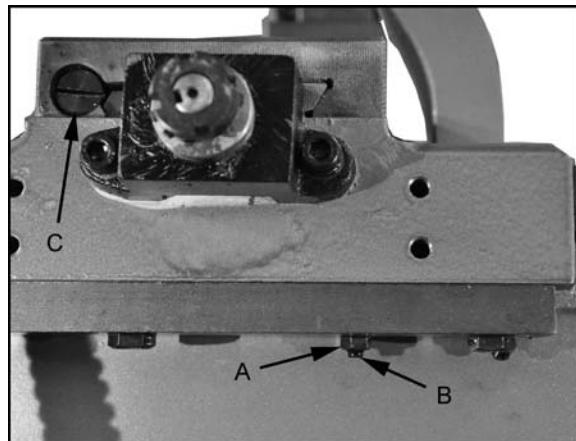

Figure 20
1. Loosen four hex nuts (A, Fig. 20) found on the bottom rear of the cross slide.
2. Turn each of the four set screws (B, Fig. 20) equally with a hex wrench until a slight resistance is felt. Do not over tighten.
1. Loosen the rear gib screw (C, Fig. 20) approximately one turn.